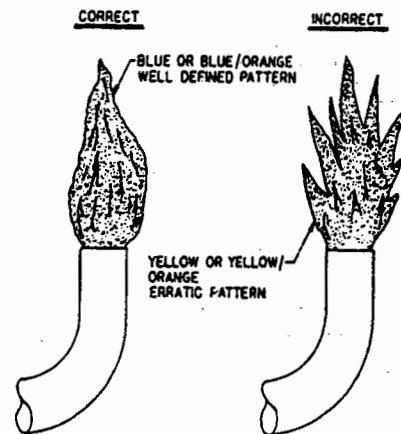

Figure 10
- If the burner flame is yellow and has an erratic pattern, shut unit down and contact a qualified service agency. Do not continue operating unit with improper burner flame. (See Figure 10 for correct and incorrect burner flame appearance.)